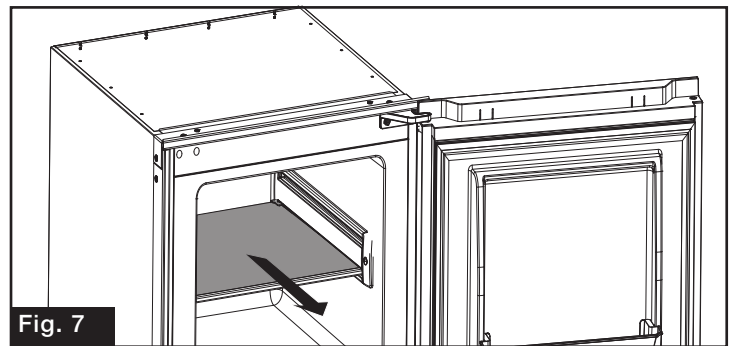

Fig. 7
4. Repeat steps 2 and 3 to loosen the shelf fixing screw on the other side. Pull to remove the shelf out from its original position. (Fig. 7)